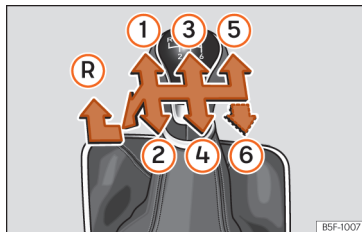

Fig. 88 Gear shift pattern of a 5 or 6-speed manual gearbox.
Gear positions are indicated on the gear lever »» Fig. 88.
- With the gear lever in neutral, push it down, move it all the way to the left and then forwards to select reverse gear »» Fig. 88 (R).